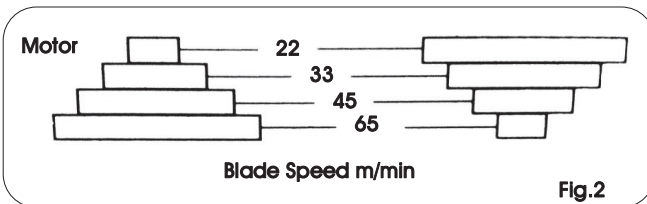

Fig.2
5. Move the belt to the desired speed (Fig.2).